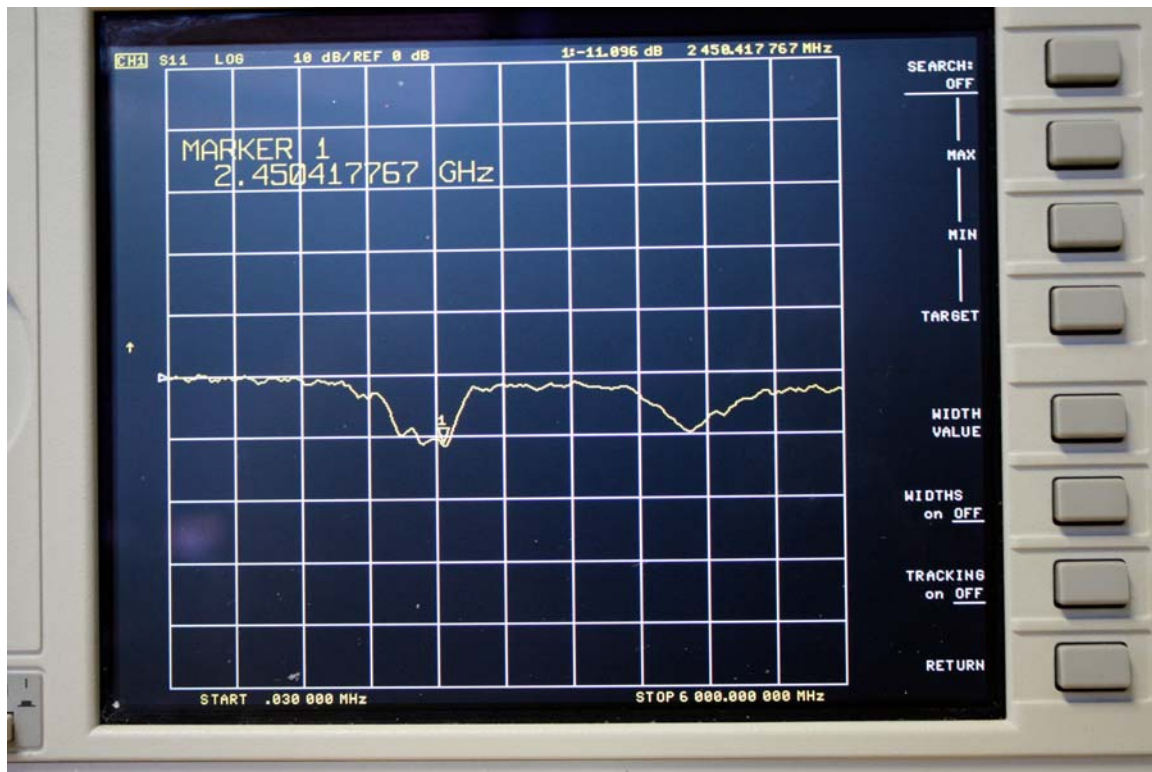

Figure 7 - (B)'s reflected power at 2.45 GHz (removed from enclosure, log mag)
Interestingly, by taking (B) OUT of its enclosure and letting it float in the air, the antenna performance changed significantly. The valley minimum shifted up to about 2.45 GHz, with reflected power about -11 dB at that point (Figure 7).